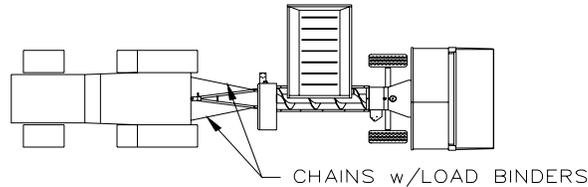

Figure 1
- Position the ROTO-PRESS in a straight line with the tractor in the direction that you want to bag, making sure that the wheels of the tractor are pointed straightforward. See Figure 1. Keep checking the tractor front wheels while filling the bag, making sure that they are straight at all times. Many people will grab the steering wheel when getting on/off. Try not to do this. Remember to leave an additional 10 to 15 feet of room to put the bag on when positioning the tractor and bagger.